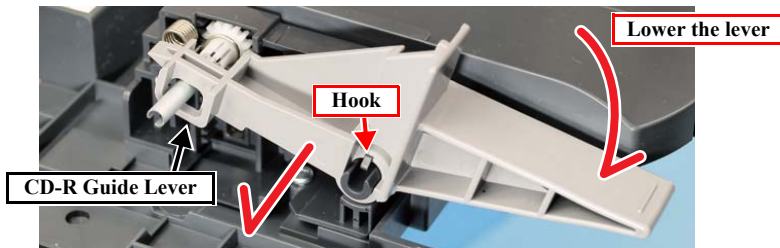

Figure 4-49. Removing the CD-R Guide Lever
3. Release the hook, and remove the CD-R Guide Lever. (Fig. 4-49)